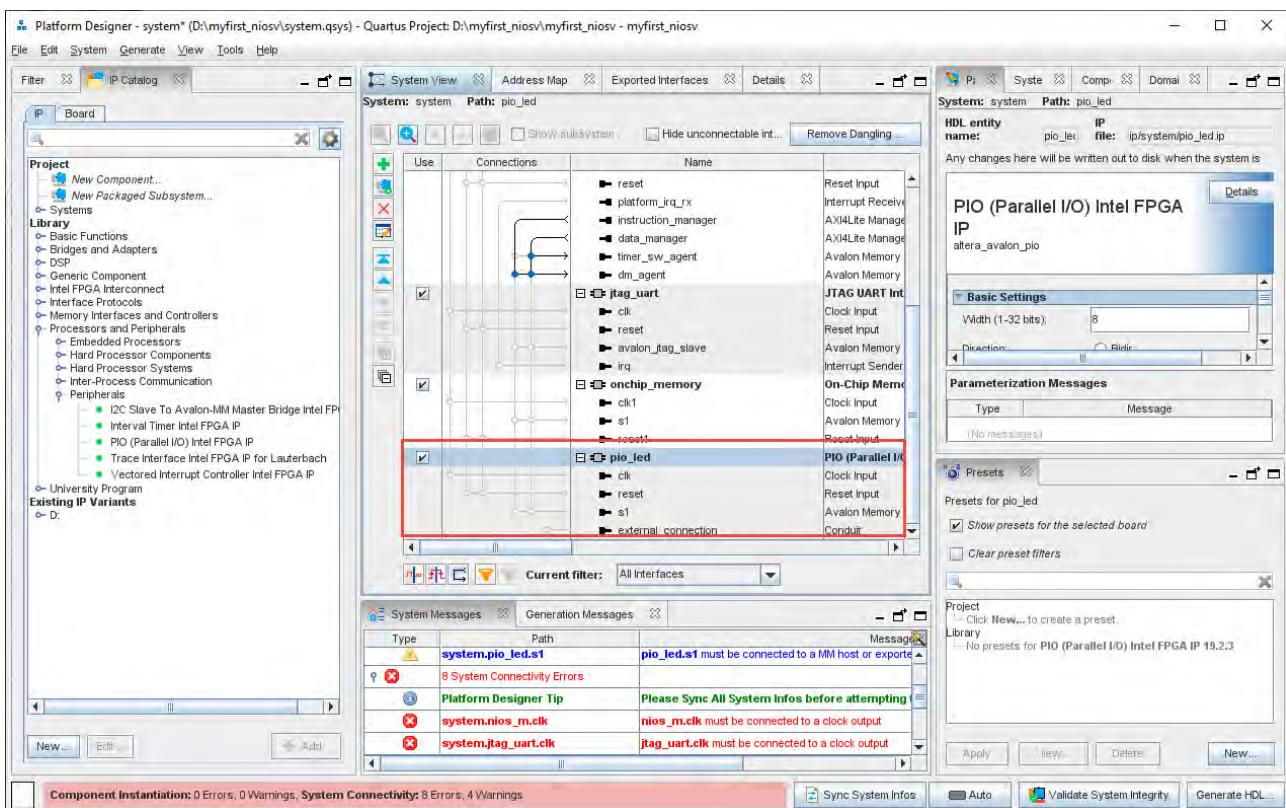

Figure 2-19 PIO
8. Figure 2-19 show the **pio_led** component is added in the system.